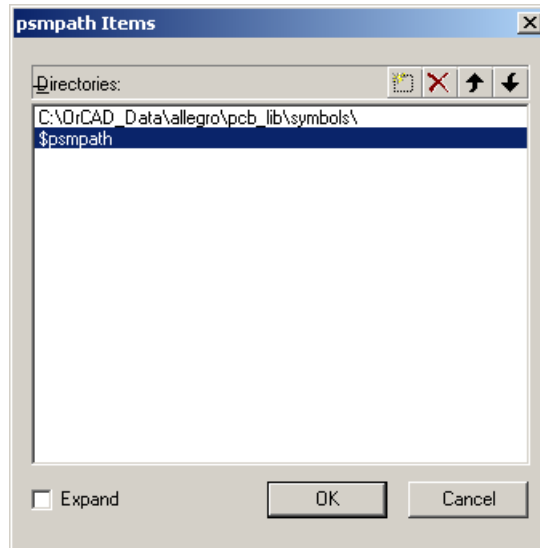

Figure 6. Completed dialogue box for setting up psmpath. Your directory path is different.
6. Next we must tell PCB Editor to look in our local directory before the default libraries, denoted by *\$psmpath*. Click on *\$psmpath* followed by the Move Down arrow. The *psmpath* Items box should now look like figure 6 on the following page except that your directories are different (my computer is not on the same network). Click OK.